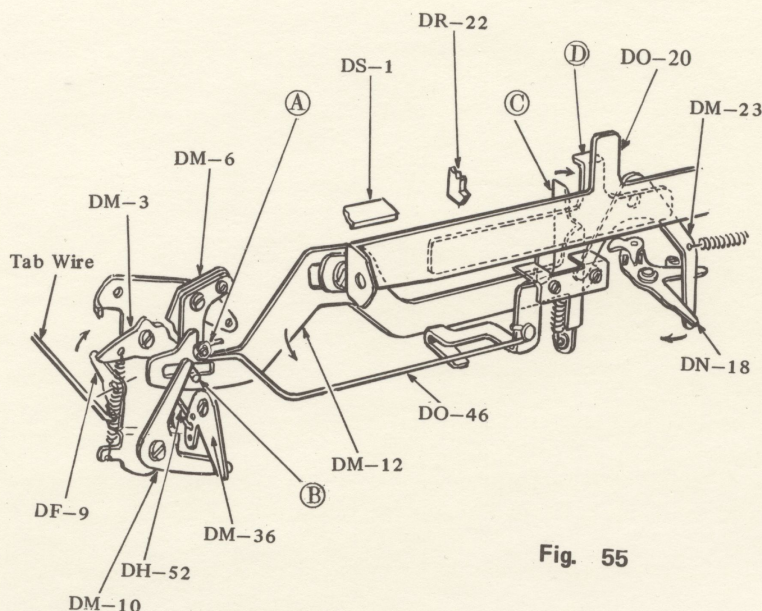

Fig. 55
DM-23 (Space Ratchet Releaser) is operated by DM-12, DN-18 (Space Ratchet) will be disengaged from DN-3 (Space Ratchet Wheel) by DM-23, resulting Carriage is made free. (Fig. 55)
DM-10 (Return Release Lever: rear) and DM-36 (Return Release Lever: front) are moved by Pin (B) caulked on DM-3, DH-52 (Return & Tab Connecting Wire) pulls DH-37 (Return Pawl), and releases DH-37 from engaged condition of DH-35 (Stopper for DH-37). Therefore, if TAB Key is depressed in the midst of Carriage Return operation, TAB Mechanism will override and Carriage will be run to the left side from the midst. (Fig. 55, 58)
If TAB Key is depressed without setting DR-22, the (D) portion of DO-20 (Carriage Stopper Unit) is touched by DR-1 (Margin Stopper: right) and DO-46 (Tab Release Wire) is pulled and Pin (A) is also pulled, then engagement between DM-6 and DM-3 will be disengaged and TAB will be released. (Fig. 55)